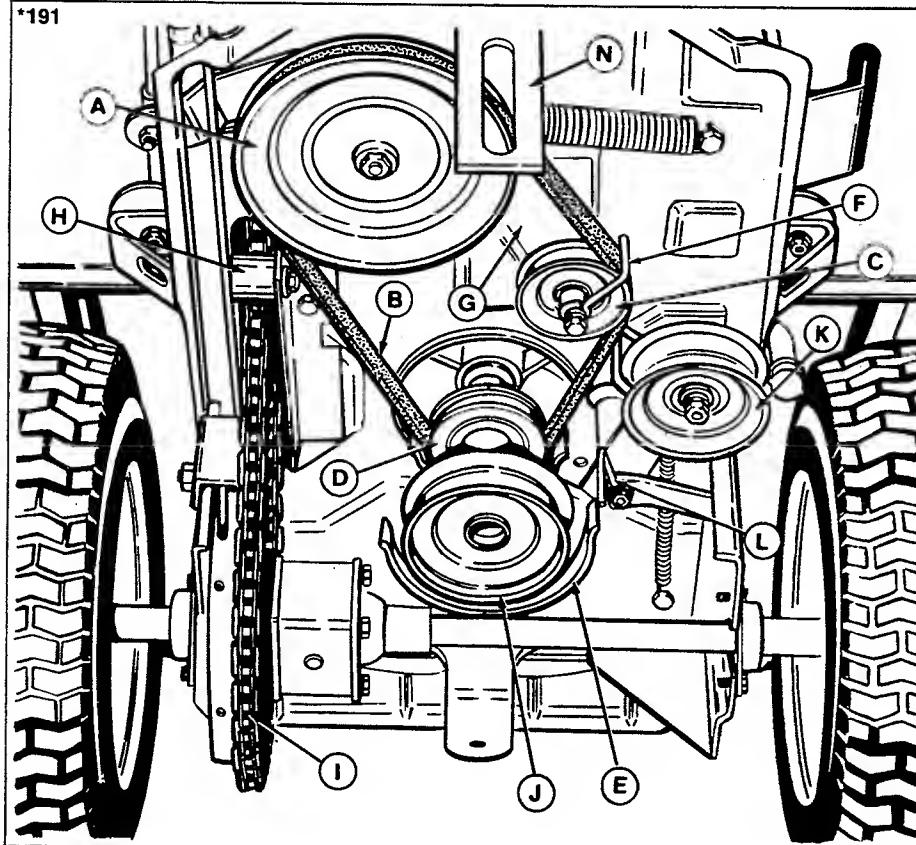

Figure 20. Rider & Mower Drive
2. Refer to figure 20. Adjust the idler pulley belt stop (F) so it is at a 90° angle to the idler arm (G).
3. Adjust the belt guard (E) so there is $1/8"$ (3 mm) clearance between guard and lower pulley. To move belt guard, loosen its two mounting capscrews and slide guard rearward or forward.
1. Refer to figure 20. Adjust the mower drive belt stop (L) so it is parallel with the rider.
2. Adjust the traction drive idler pulley belt stop (F) so it is at a 90° angle to the idler arm (G).
3. Adjust the belt guard (E) so there is $1/8"$ (3 mm) clearance, between guard and lower pulley. To move belt guard, loosen its two mounting capscrews and slide guard rearward or forward.
This procedure assumes the belt is installed on the engine PTO pulley (J, figure 20) and idler pulley (K).
This procedure assumes the mower drive belt is already installed on the PTO pulley (J, figure 20) and idler pulley (K).